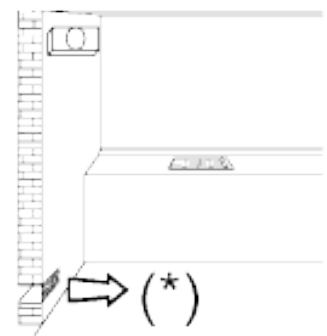
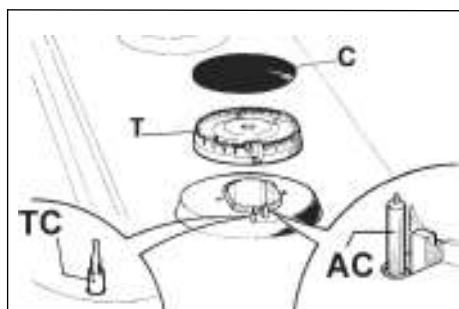
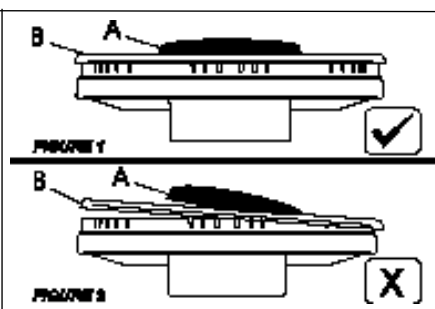
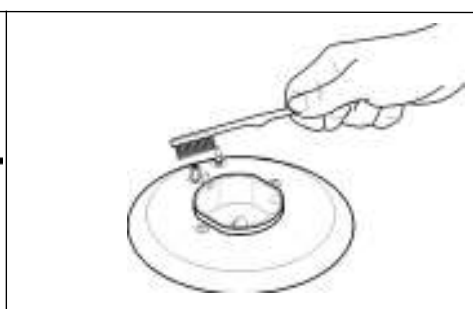

FIG. 3
FIG. 4
FIG. 5
FIG. 6
- use of a gas cooking appliance produces heat and moisture in the room in which it is installed. The room must therefore be well ventilated by keeping the natural air vents clear (fig. 3) and by activating the mechanical aeration device (suction hood or electric fan fig. 4 and fig. 5).
Periodically wash the hot plate, the enamelled steel pan support, the enamelled burner caps "A", "B" and "C" and the burner heads "T" (see fig. 4 and 5) with lukewarm soapy water. They should also be cleaned plugs "AC" and flame detection "TC" (see fig. 4). Clean them gently with a small nylon brush as shown (see fig. 6) and allow to dry fully.
- check that burner head slots "T" (fig. 4) have not become clogged by foreign bodies.
The room where the appliance is installed must be permanently ventilated to guarantee its correct operation. The amount of air necessary is that required for the correct combustion of gas and the ventilation of the room, which must measure at least 20 m³. The natural airflow must take place directly through permanent openings made in the walls of the room to be ventilated, which lead outside and have a minimum section of 100 cm² (see fig. 3). These openings must be made so that they cannot be blocked.